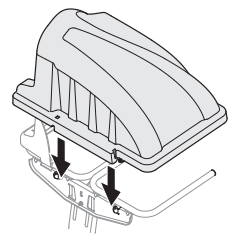

Figure 15
5. Install the bagger cover onto the hanger assembly. The cover goes inside of the two mounting tabs. See Figure 15.